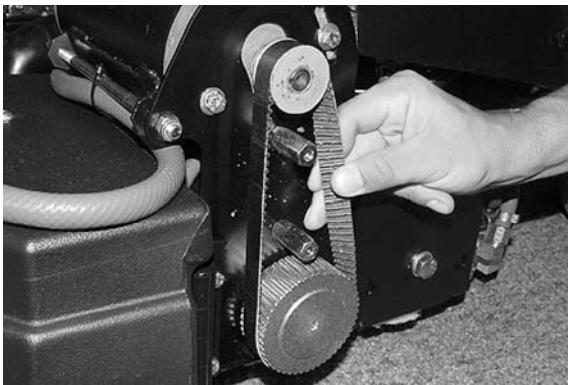

FIG. 38
9. Periodically check the belt tension on the two brush motors. Tighten the belt if you're able to twist it beyond 90° at midpoint (Figure 38).